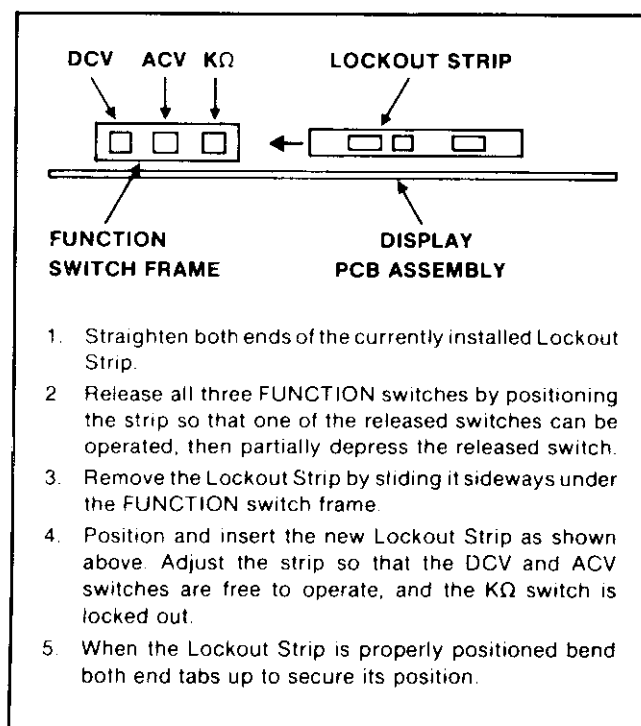

Figure 608-1. Lockout Strip Installation Instructions
2. Determine the measurement functions that will be available when the AC Converter is installed, i.e., DCV and ACV or DCV, ACV, and $\text{k}\Omega$. If $\text{k}\Omega$ is not available, prepare and install the Lockout Assembly as shown in Figure 608-1. If the Ohms Converter (Option -007) is installed, the Lockout Assembly is not required. In this case, complete only steps 1, 2, and 3 of Figure 608-1.